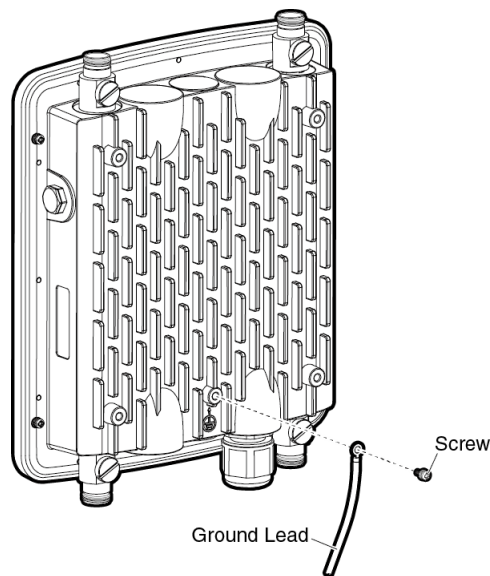

Figure 9. Aligning the Access Point with Ground Cable
1. Align the ground cable hole on the access point with the ring terminal of the ground cable. Refer to Figure 9.